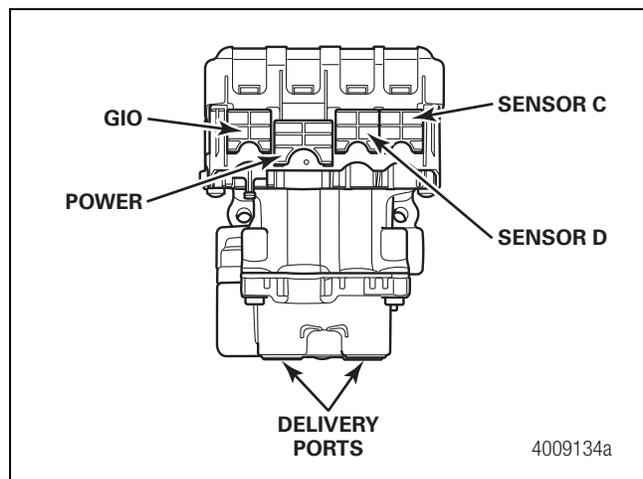
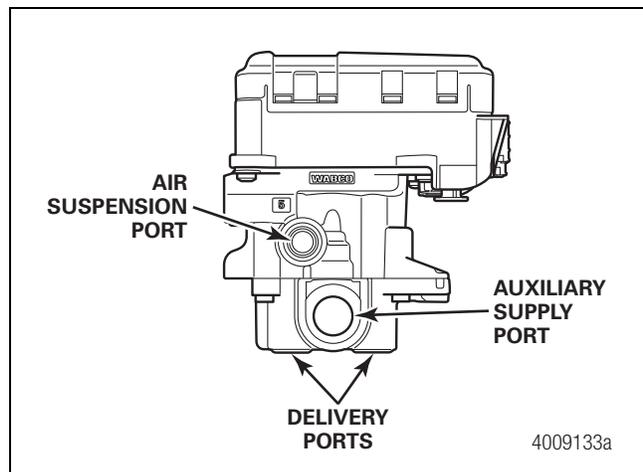
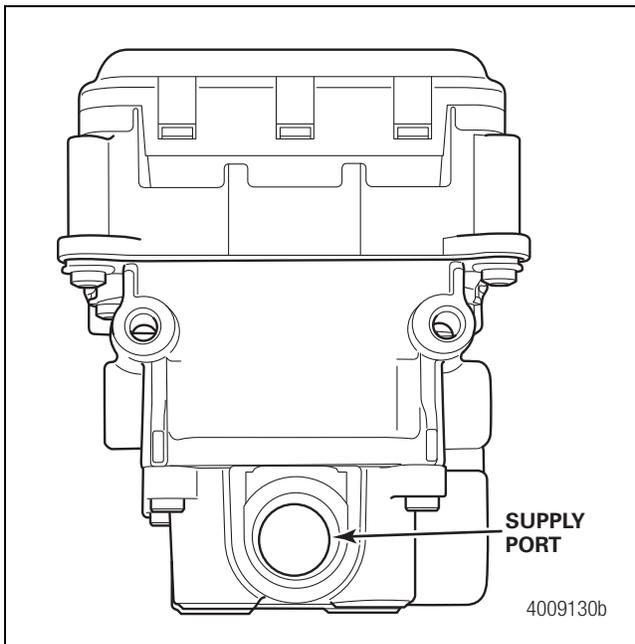
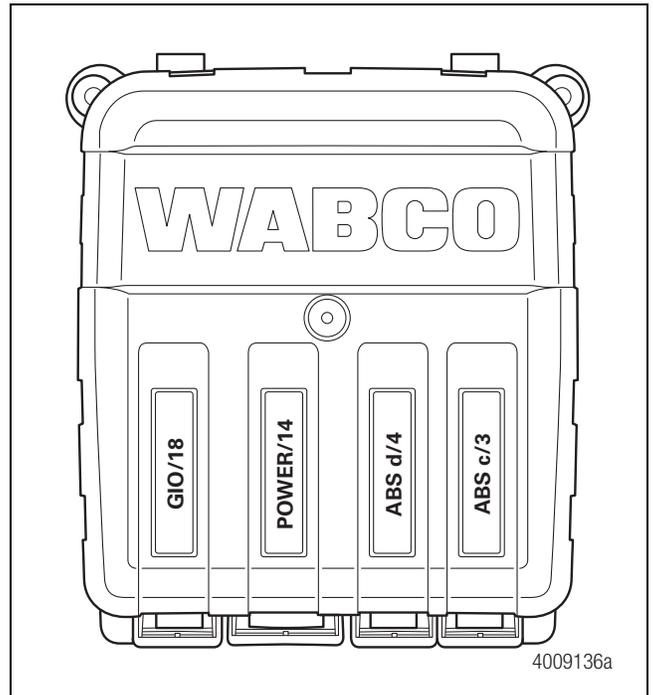

Figure 1
Figure 2
Figure 4
Figure 5
The valve portion of the electronic control unit (ECU) modulator valve assembly contains one separate modulator valve with four delivery ports. The mounting orientation — whether the valve is mounted with the sensors facing the front or the rear of the trailer — determines sensor hookup. Figure 1 through Figure 5.
1. For tank-mounted ECUs, first connect the ECU/modulator valve assembly directly to the air reservoir using a schedule 80 NPTF fitting. Tighten the fitting between the supply port of the ECU/modulator valve assembly and the air reservoir to 122 ft-lb (165 N•m). Refer to Figure 2 and Figure 4 for supply port location. ⓘ
2. For remote-mounted ECUs, connect the air supply line from the supply tank to the 3/4-inch NPTF supply port on the ECU/modulator valve assembly. **Use 5/8-inch minimum O.D. nylon tubing.** Tighten the fitting to 122 ft-lb (165 N•m). Plug the unused supply port. Refer to Figure 2 and Figure 4 for supply port location. ⓘ
3. Connect air delivery lines to the ECU valve assembly. The ports labeled 2 are 3/8-inch NPTF. Tighten the fittings to 59 ft-lb (80 N•m). Refer to Figure 1 and Figure 2 for deliver port location. ⓘ